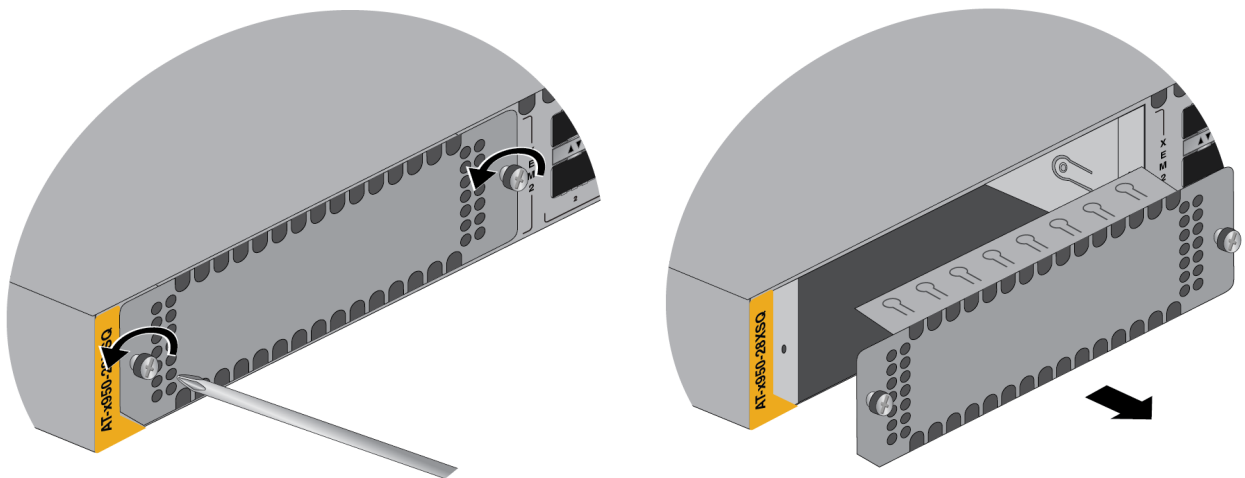

Figure 73. Removing the Blank Line Card Cover
1. Using a #2 Phillips-head screwdriver, loosen the two captive screws on the blank expansion slot panel and remove it from the switch. Refer to Figure 73.